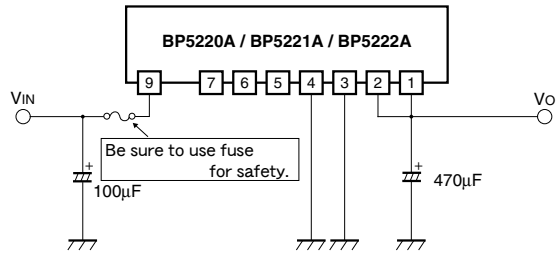

Fig.2
- (1) The basic application examples are shown in Fig.2. The externally installed parts are only the input and output smoothing capacitors.